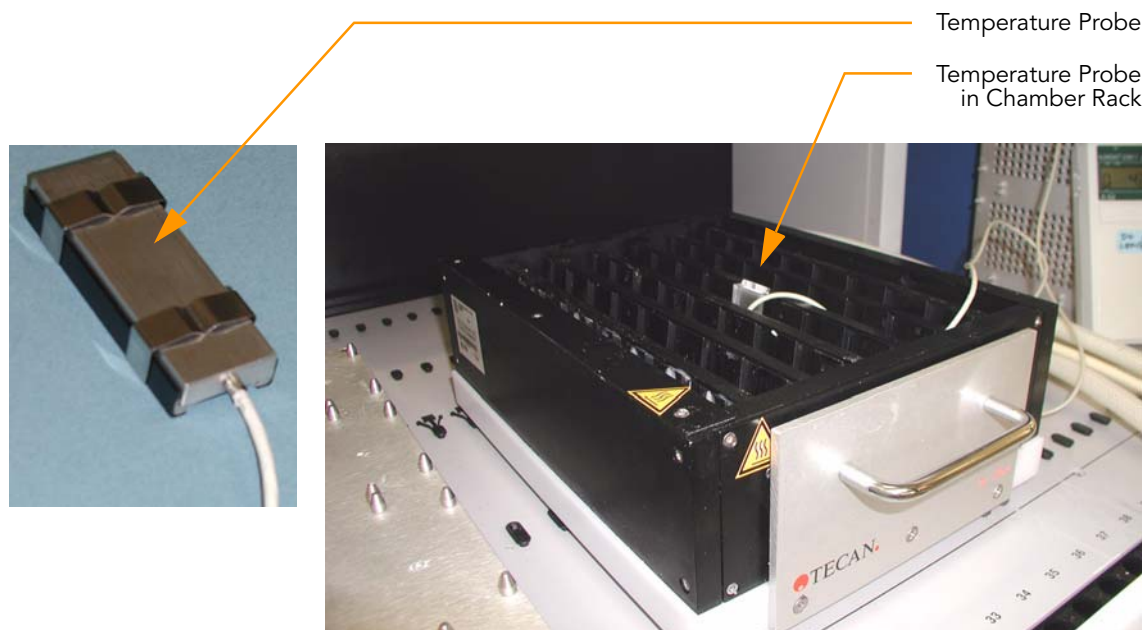

Figure 164 Illumina Temperature Probe in Chamber Rack
4. Use the Illumina Temperature Probe in several locations to ensure that the Chamber Rack is at 44°C (Figure 164).